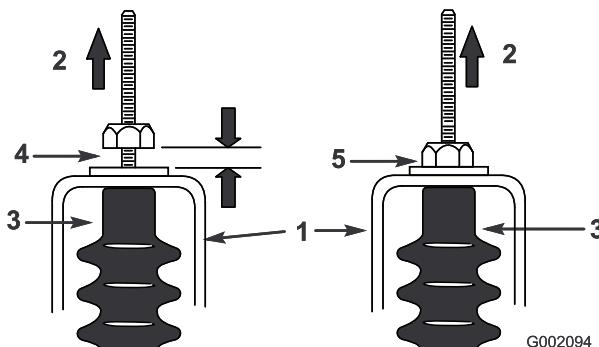

Figure 49
5. Pull up on each shift cable and ensure that there is a 0.76 to 1.52 mm (0.03 to 0.06 inch) between the nut/washer and the neutral bracket (Figure 49).